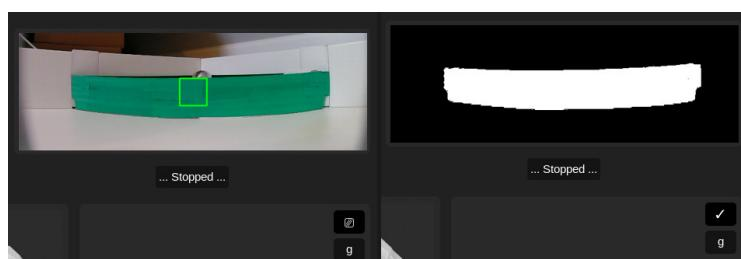

Figure 71: Color Calibration Interface
- Added a colour calibration interface to the GUI, which first displays a rectangle for positioning the evacuation point, after confirmation of the image section, the zone camera switches to a binarized image using the new average colours. This new average color is saved in the config file and will be used for evacuation point detection from now on (see Fig. 71)